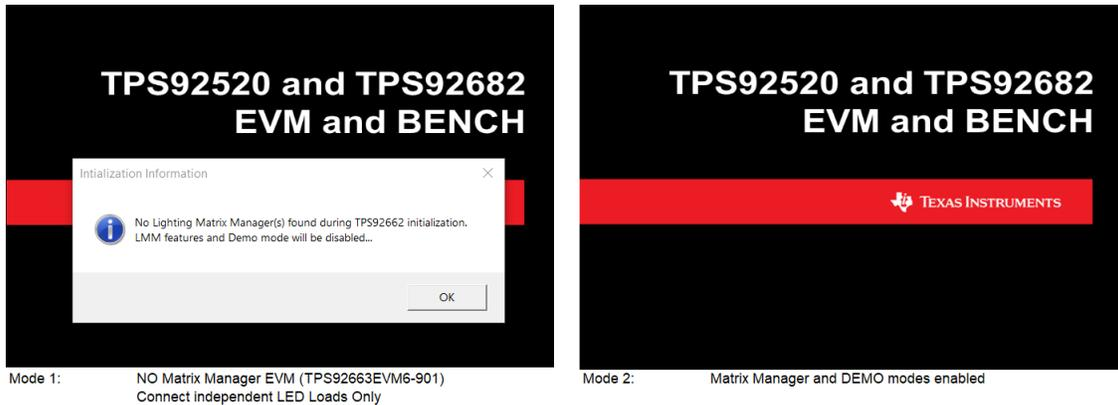
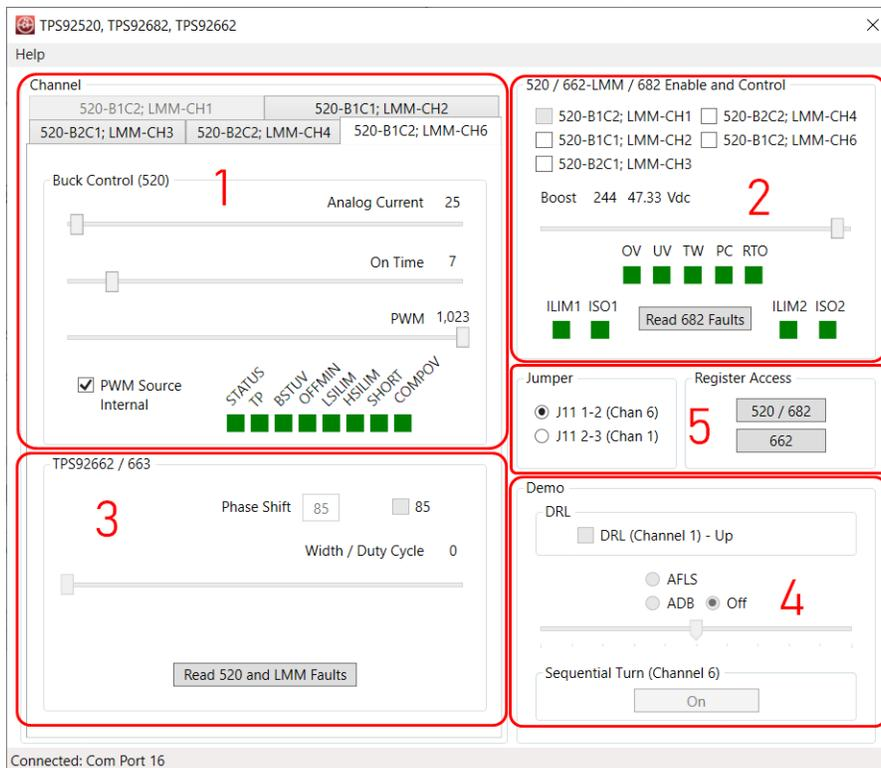

Figure 35. GUI Splash Screen with Configuration Information
Figure 36. GUI, Main Window (Numbered areas are for explanation purposes only)
The window appears as one of Figure 35, then as Figure 36.
4. Select a channel to be tested in the **Enable and Control** area of the GUI (boxed area 2 shown in Figure 36). For example, select **LMM-CH2** by checking the box beside the text.
Figure 36 shows the main GUI window. This window includes **five** sub-windows: